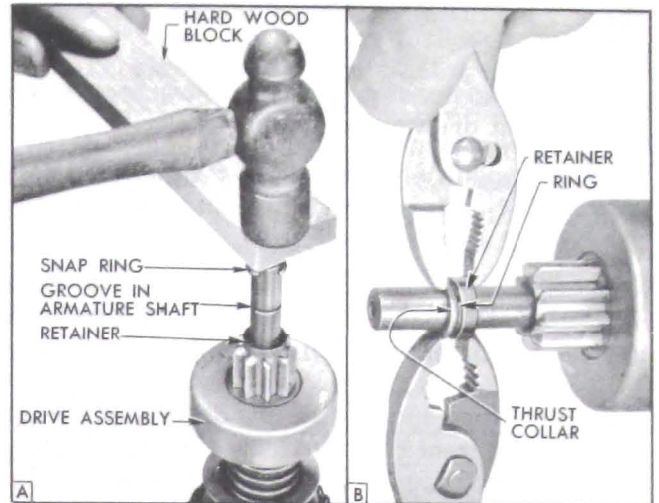

Figure 10-27—Pinion Stop Retainer and Snap Ring Installation
5. Place a new snap ring on drive end of shaft and hold it in place with a hard wood block. Strike block with hammer to force snap ring over end of shaft, then slide the ring down into groove in shaft. See Figure 10-27, view A.
6. Place thrust collar on shaft with shoulder next to snap ring, and move the retainer into contact with ring. Using pliers on opposite sides of shaft squeeze retainer and thrust collar together until snap ring is forced into the retainer. See Figure 10-27, view B.